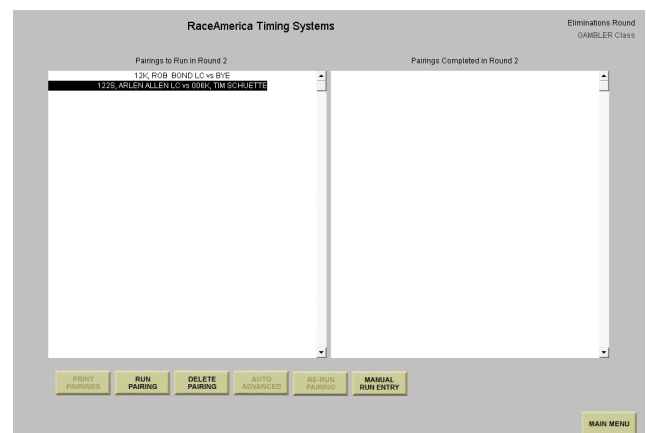

Figure 18a - Race Ladder Pairings Screen
Clicking on the RACE LADDERS button on the Main Menu, then selecting a class will load driver's names for that class and automatically generate drivers pairings using the ladder size and seeding method selected on the EDIT CLASSES screen. If the class contains 64 or less entries, the size of the ladder is adjusted to match the size of the race field. Driver pairings are then displayed as shown in Figure 18a. Lane Choice is indicated by (LC) next to the driver's name.